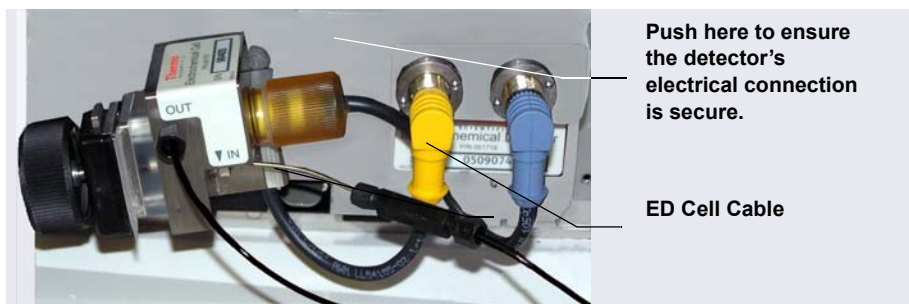

Figure 8-4. *Electrochemical Detector Connection (Analytical Cell Shown)*
1. Check the detector connections: Verify that the signal cable from the cell is connected to the appropriate connector on the detector block (see Figure 8-4). Also, push firmly on the detector to ensure the electronics
Check the cable connection: Verify that the signal cable from the working electrode is connected to the detector block (see Figure 8-4).